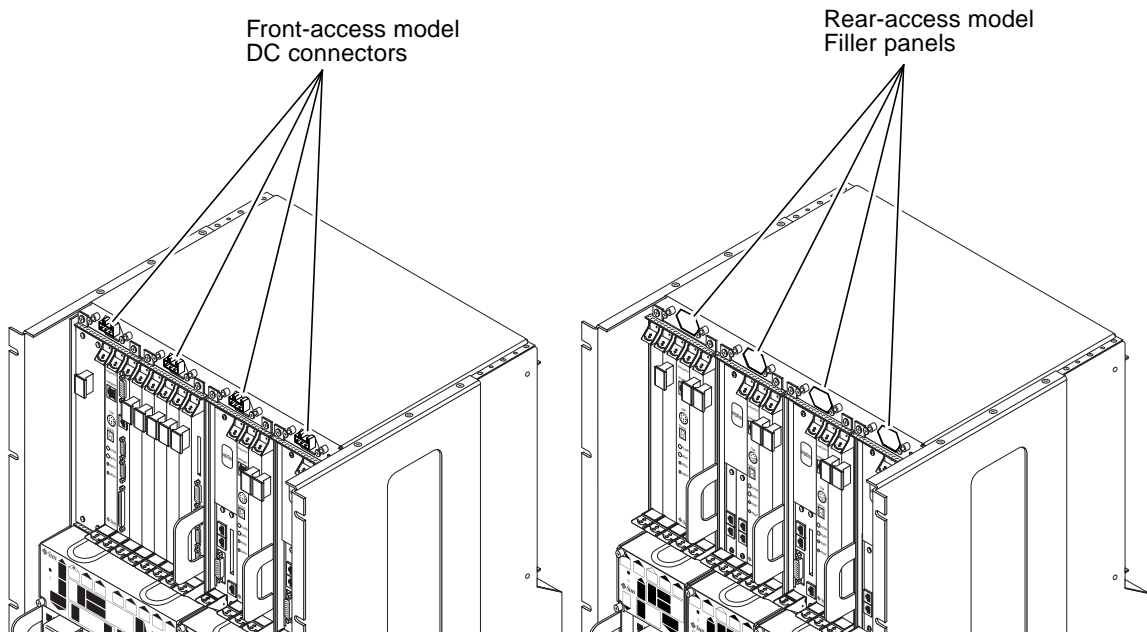

FIGURE 1-18 Front-Access and Rear-Access Models
- If you see the DC connectors at the front of the chassis, then you have a *front-access model* (FIGURE 1-18).
- If you do not see DC connectors at the front of the chassis, and metal filler plates fill the gaps where the DC connectors would normally be, then you have a *rear-access model* (FIGURE 1-18). The DC connectors are at the rear of the chassis for the rear-access model.